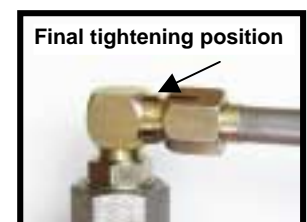

Fig.A3 Mark final tightening position
7. Mark final tightening position on fitting by extending the existing mark from the nut to the adjacent fitting surface. See Fig.A3.